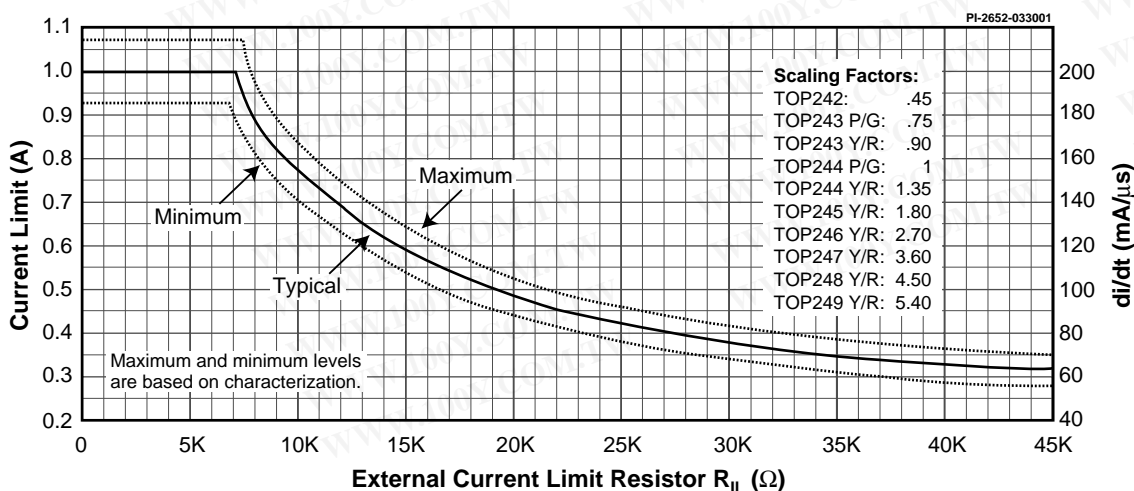

Figure 55. Current Limit vs. External Current Limit Resistance.
- For externally adjusted current limit values, please refer to Figure 55 (Current Limit vs. External Current Limit Resistance) in the Typical Performance Characteristics section.